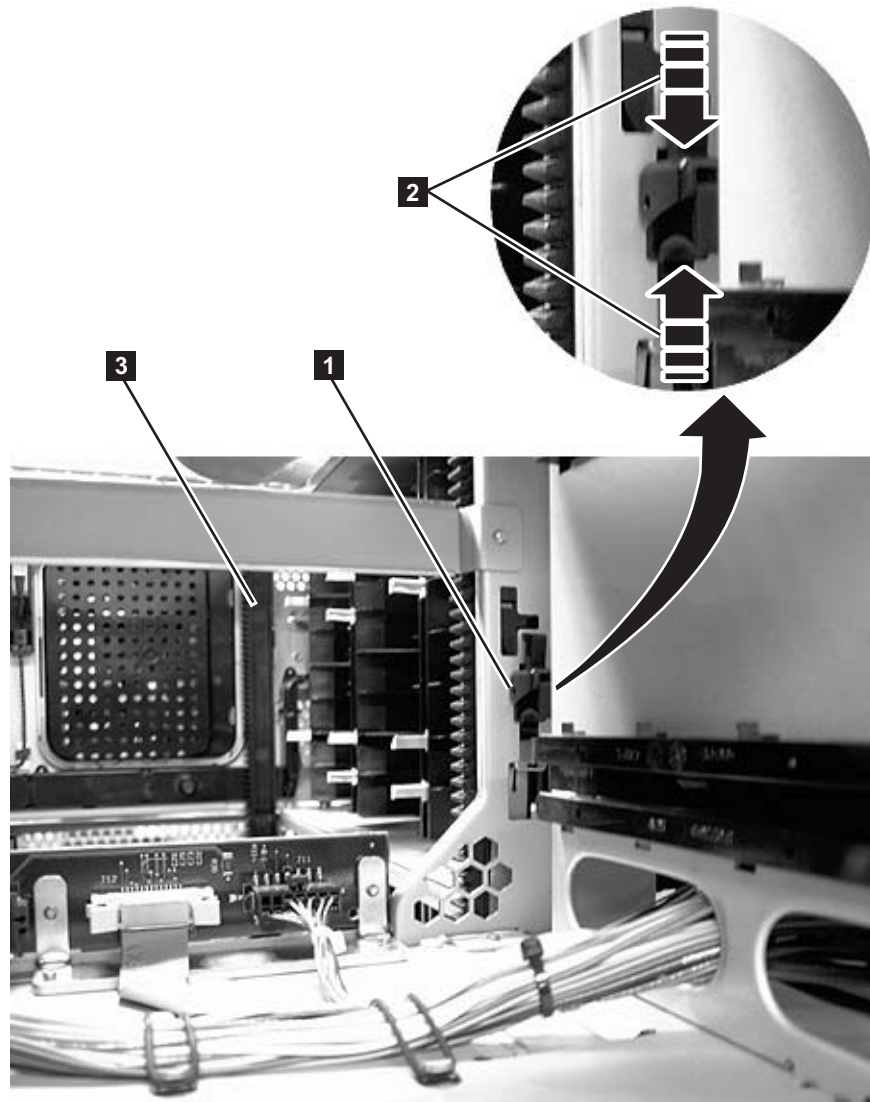

Figure 12-2. Gear racks and gear rack locking mechanism
3. Disengage the rear (**1** in Figure 12-2) and front (**3** in Figure 12-2) gear racks in the control module. While pinching the gear rack locking mechanism (**2** in Figure 12-2), push the gear rack up until it locks in place.